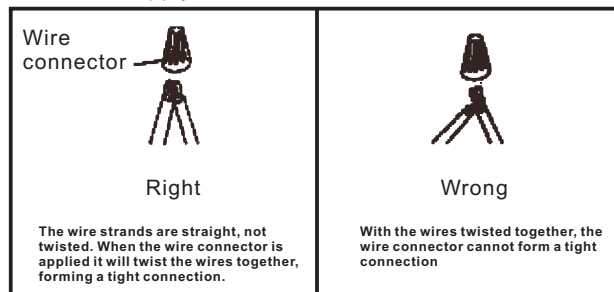

Figure 2
5. Remove 3/8" (95 cm) of insulation from the two wires from strain relief, and attach the new terminal block using the wire connectors. See Figure 2.